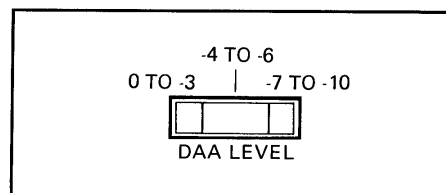

Figure 2-5. DAA LEVEL Switch
2. With a screwdriver, set the DAA LEVEL slide switch on the rear panel of the AD 342 (Figure 2-5) to correspond with the number on the DAA. For instance, if the DAA is marked -5 dBm, set the AD 342 level switch to the -4 to -6 position.